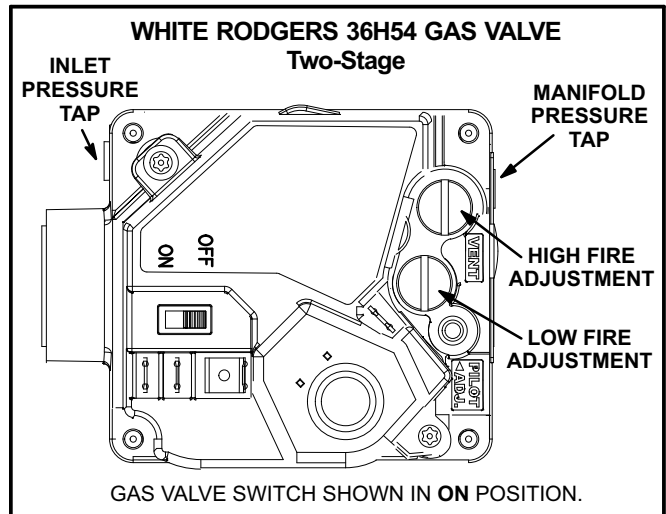
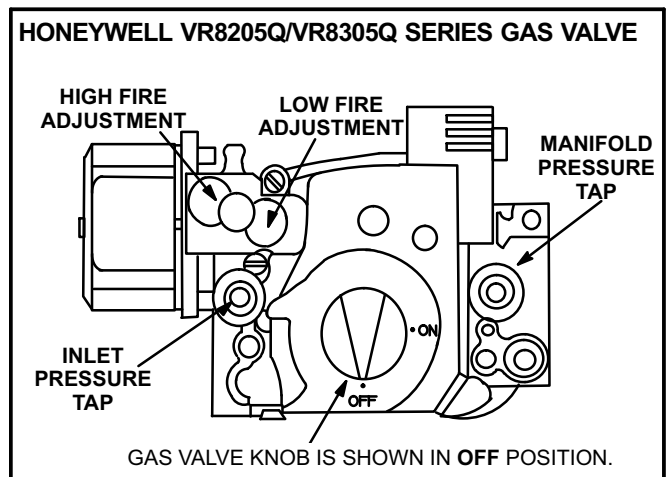

FIGURE 20
FIGURE 21
Gas Valve Operation for Honeywell VR8205Q/VR8305Q and White Rodgers 36H54 (figure 20 and 21)
- 5- Turn gas valve switch to **OFF**. See figure 20. On Honeywell VR8305Q gas valves, turn the knob on the gas valve clockwise  to “**OFF**”. Do not force. See figure 21.
- 6- Wait five (5) minutes to clear out any gas. If you then smell gas, **STOP!** Immediately call your gas supplier from a neighbor's phone. Follow the gas supplier's instructions. If you do not smell gas, go to the next step.
- 7- Turn gas valve switch to **ON**. See figure 20. On Honeywell VR8305Q gas valves, turn the knob on the gas valve counterclockwise  to “**ON**”. Do not force. See figure 21.